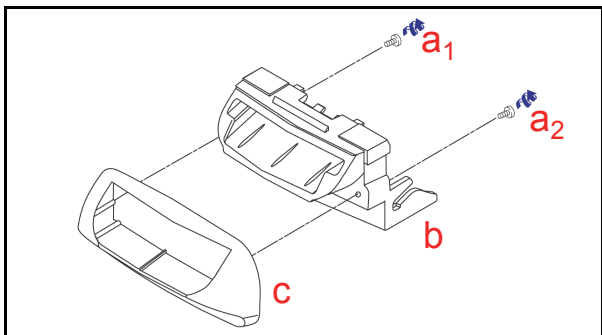

Figure 4-1 Taiko Bezel Guide Removal
1. Remove the two (2) Bezel Mounting Screws (See Figure 4-1 a₁ & a₂) located behind the Bezel Guide (See Figure 4-1 b).
2. Separate the Bezel Guide from its Front Bezel Section (See Figure 4-1 c).